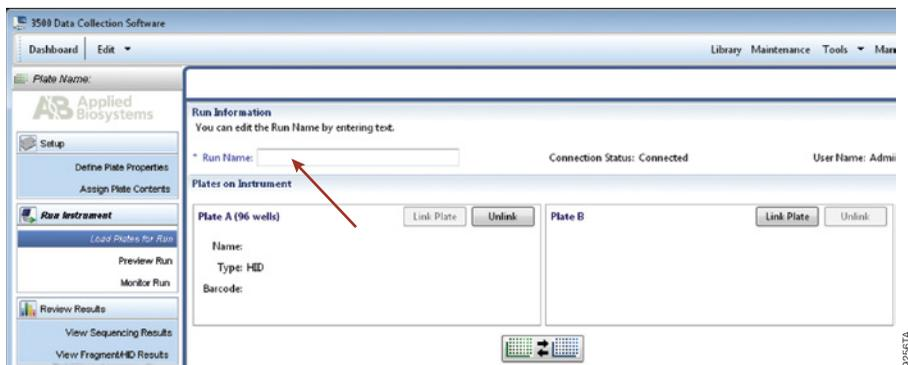

Figure 10. Assigning a run name.
- In the 'Run Information' window (Figure 10), assign a Run Name. Select **Start Run** (not shown).